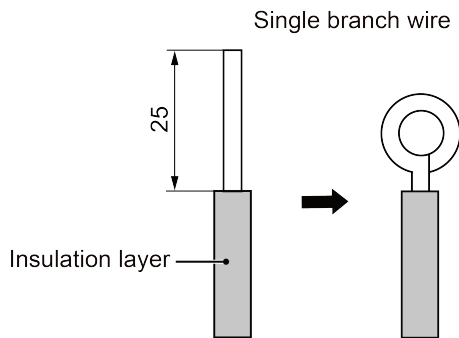

Fig 5.1.1
(1) The connection of wire (as shown in fig 5.1.1).